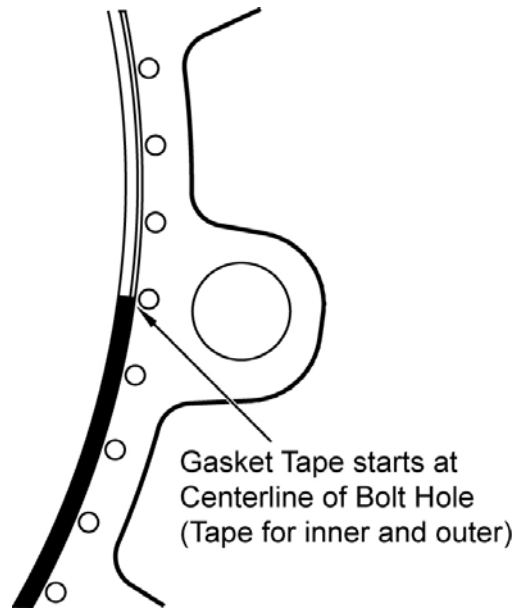
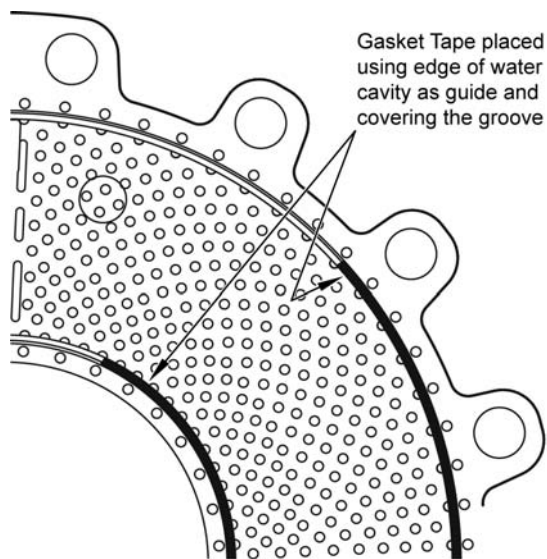

Figure 2 : Start location of gasket tape
Figure 3 : Placement of gasket tape
- (a) Start with the sealing area nearest to the inner diameter on the IRON. Remove the adhesive backing on the gasket tape a little at a time to prevent the adhesive from picking up dirt during installation. Start by positioning one end of the tape and at the centerline of a bolt hole as shown in **Figure 2**, using the edge of the water cavity as a guide, as shown in **Figure 3**. Proceed to apply the tape on the sealing surface following a smooth circular path, being sure to press the tape in place. Note that the tape will cover the machined groove that is located between the water cavity and bolt holes.